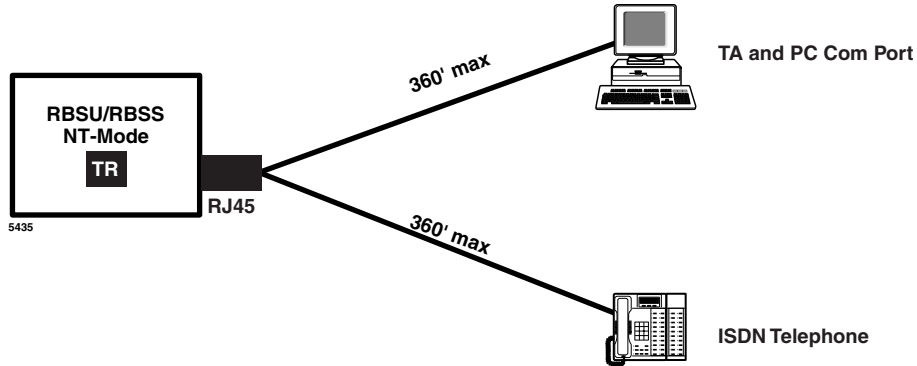

Figure 7-19 Simplified Short-branched Passive Bus
To control electrical characteristics, a 100-ohm terminating resistor (TR) is required at both ends of the passive bus. One resistor should be across the Tx pair and one across the Rx pair at either end of the passive bus. Branch-type passive bus configurations, shown in Figures 7-19~7-22, may only require a TR on the RBSU/RBSS NT circuit side and not on the TE or TA device side of the bus.
The placement of S-type TE and TA devices on the BRI S-passive bus is critical for good RBSU/RBSS BRI circuit performance. Figures 7-19~7-22 show four passive bus architectures that are known to work. In all installations, follow the guidelines of any of these passive-bus models using the wire, cables, and jacks described in the previous paragraphs.